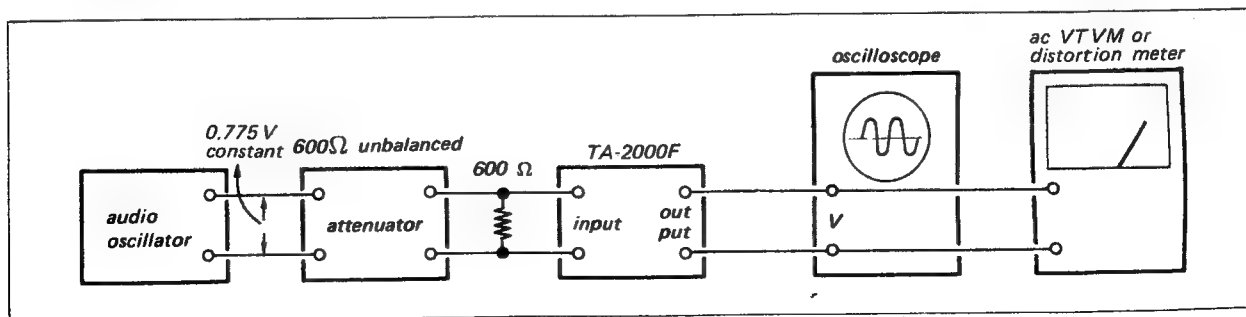

Fig. 3-4. Level check test setup
1. With the equipment connected as shown in Fig. 3-4, feed a 1 kHz signal to the input jack. Adjust the attenuator to obtain a 1 volt reading on the ac VTVM. Note that the audio oscillator's output should always be kept at 0.775 volts (0 dB).
1. With the equipment connected as shown in Fig. 3-4, feed a 1 kHz to the TUNER input jack. Adjust the attenuator to obtain a 1 volt reading on the ac VTVM.
1. With the equipment connected as shown in Fig. 3-4, feed in the signal specified in Table 3-3 and then adjust the VOLUME control to obtain a 1 volt (r.m.s.) output.
1. With the equipment connected as shown in Fig. 3-4, feed a 1 kHz signal to the input jack. Vary the attenuator to obtain a 1 volt reading on the ac VTVM.
1. With the equipment connected as shown in Fig. 3-4, feed a 1 kHz signal to the TUNER input jack. Vary the attenuator to obtain a 1 volt reading on the ac VTVM.